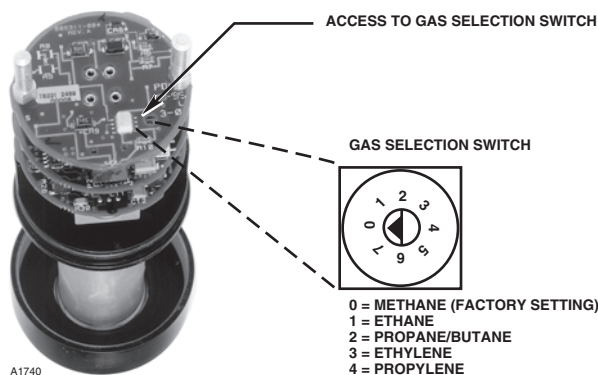

Figure 14—Gas Selection Switch Location at the Bottom of the Electronics Assembly
4. Using a small screwdriver, rotate the gas selection switch from position 0 (methane) to the desired position. Refer to Figure 14. Ensure that the tip of the arrow on the switch lines up with the position selected.